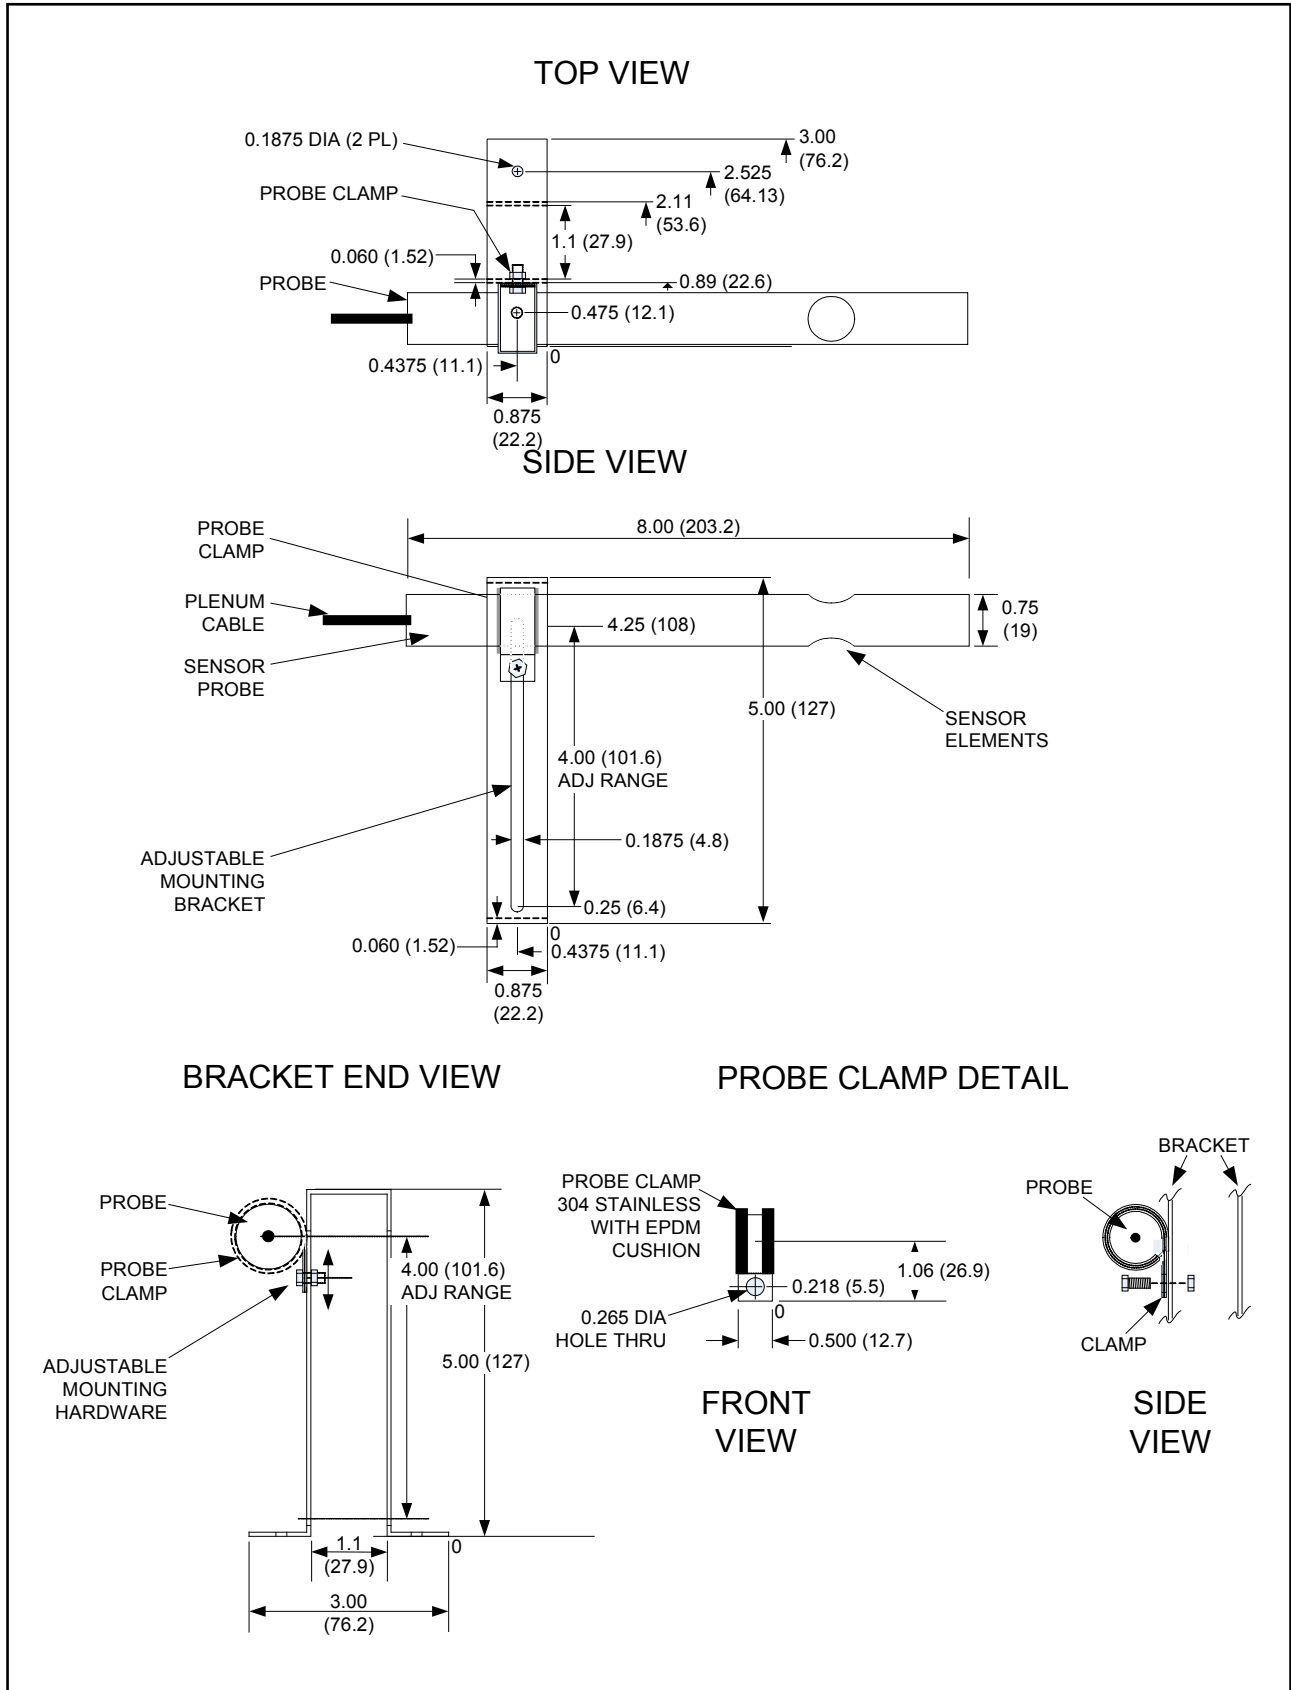
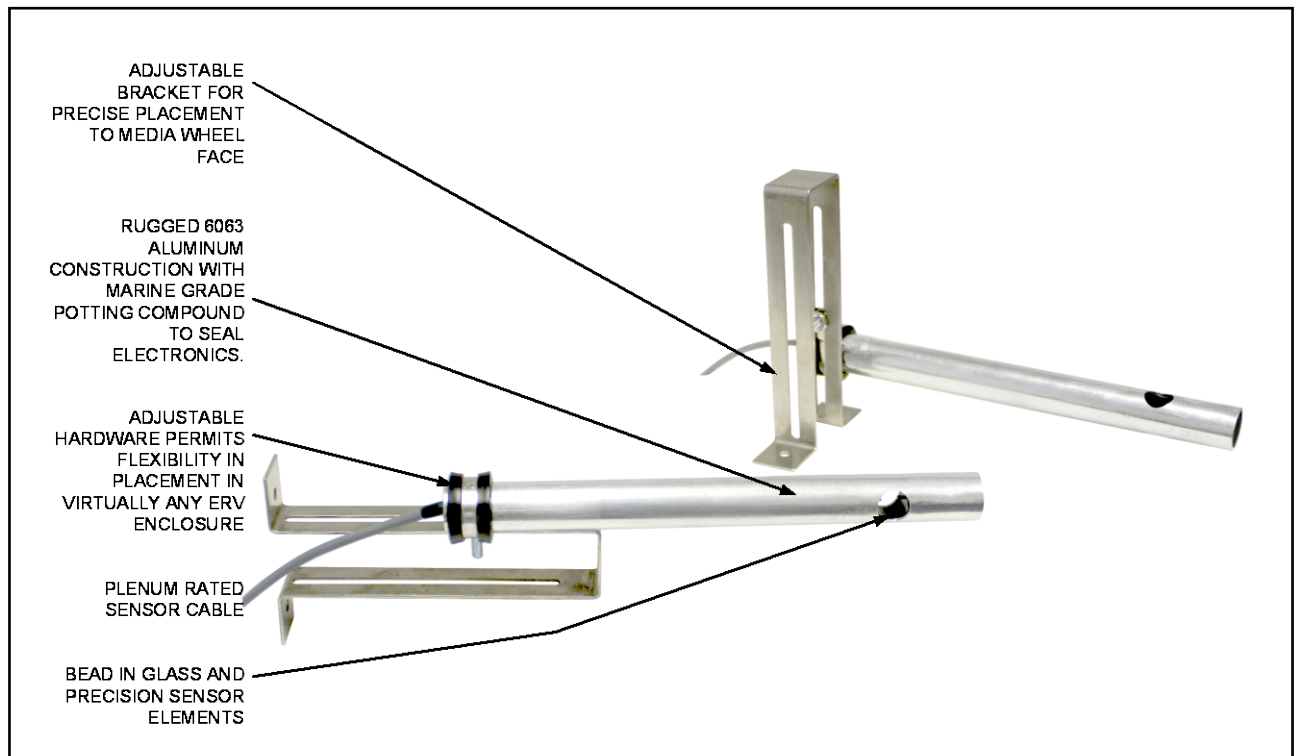

Figure 4. S-110 Airflow Probe and Universal Bracket Detail Views
Figure 7. Airflow Probe and Universal Bracket Detail View
Figure 7 is a detail view of the Airflow Probe and universal bracket. Refer also to Figure 4 for dimensional details.
2.  Install the supplied universal adjustable mounting brackets as shown in Figures 4, 7 and 8. The brackets can be adjusted to suit a wide variety of ERV media wheel enclosure applications.
4.  Adjust the brackets and probe clamp as shown in details of Figures 4, 7 and 8 in order to establish 0.50 to 1.00 inch (12.7 to 25.4 mm) clearance between the ERV media wheel face and the airflow probe.
8.  Route the **OA** probe cable to the intended location of the DRI-1000-A Controller/Display unit. The OA probe connector measures outside airflow stream and will be connected to the **left (OA) connector** on the DRI-1000-A Controller unit.
10.  Route the **EX** probe cable to the intended location of the DRI-1000-A Controller/Display unit. The EX probe connector measures exhaust airflow stream and will be connected to the **right (EX) connector** on the DRI-1000-A Controller unit.